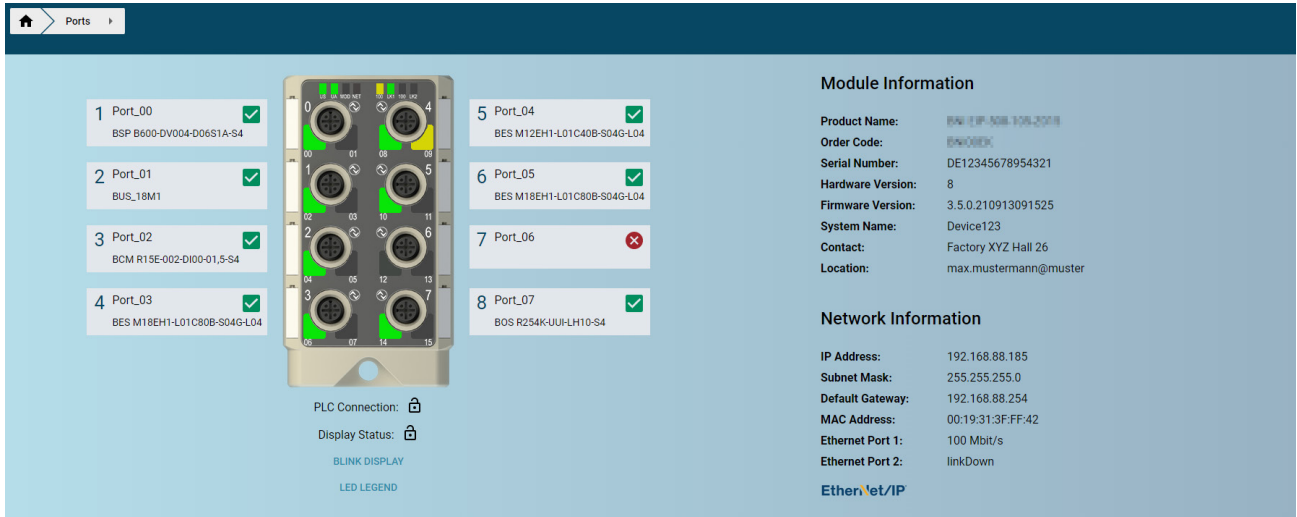

Fig. 6-12: WebUI – Homepage
- ⇒ WebUI starts with the homepage, with the most important device information (see Fig. 6-12).
The homepage (see Fig. 6-12) shows key information about the IO-Link master itself and its network activity. It also shows whether the configuration or display lock has been activated via the control unit (PLC).